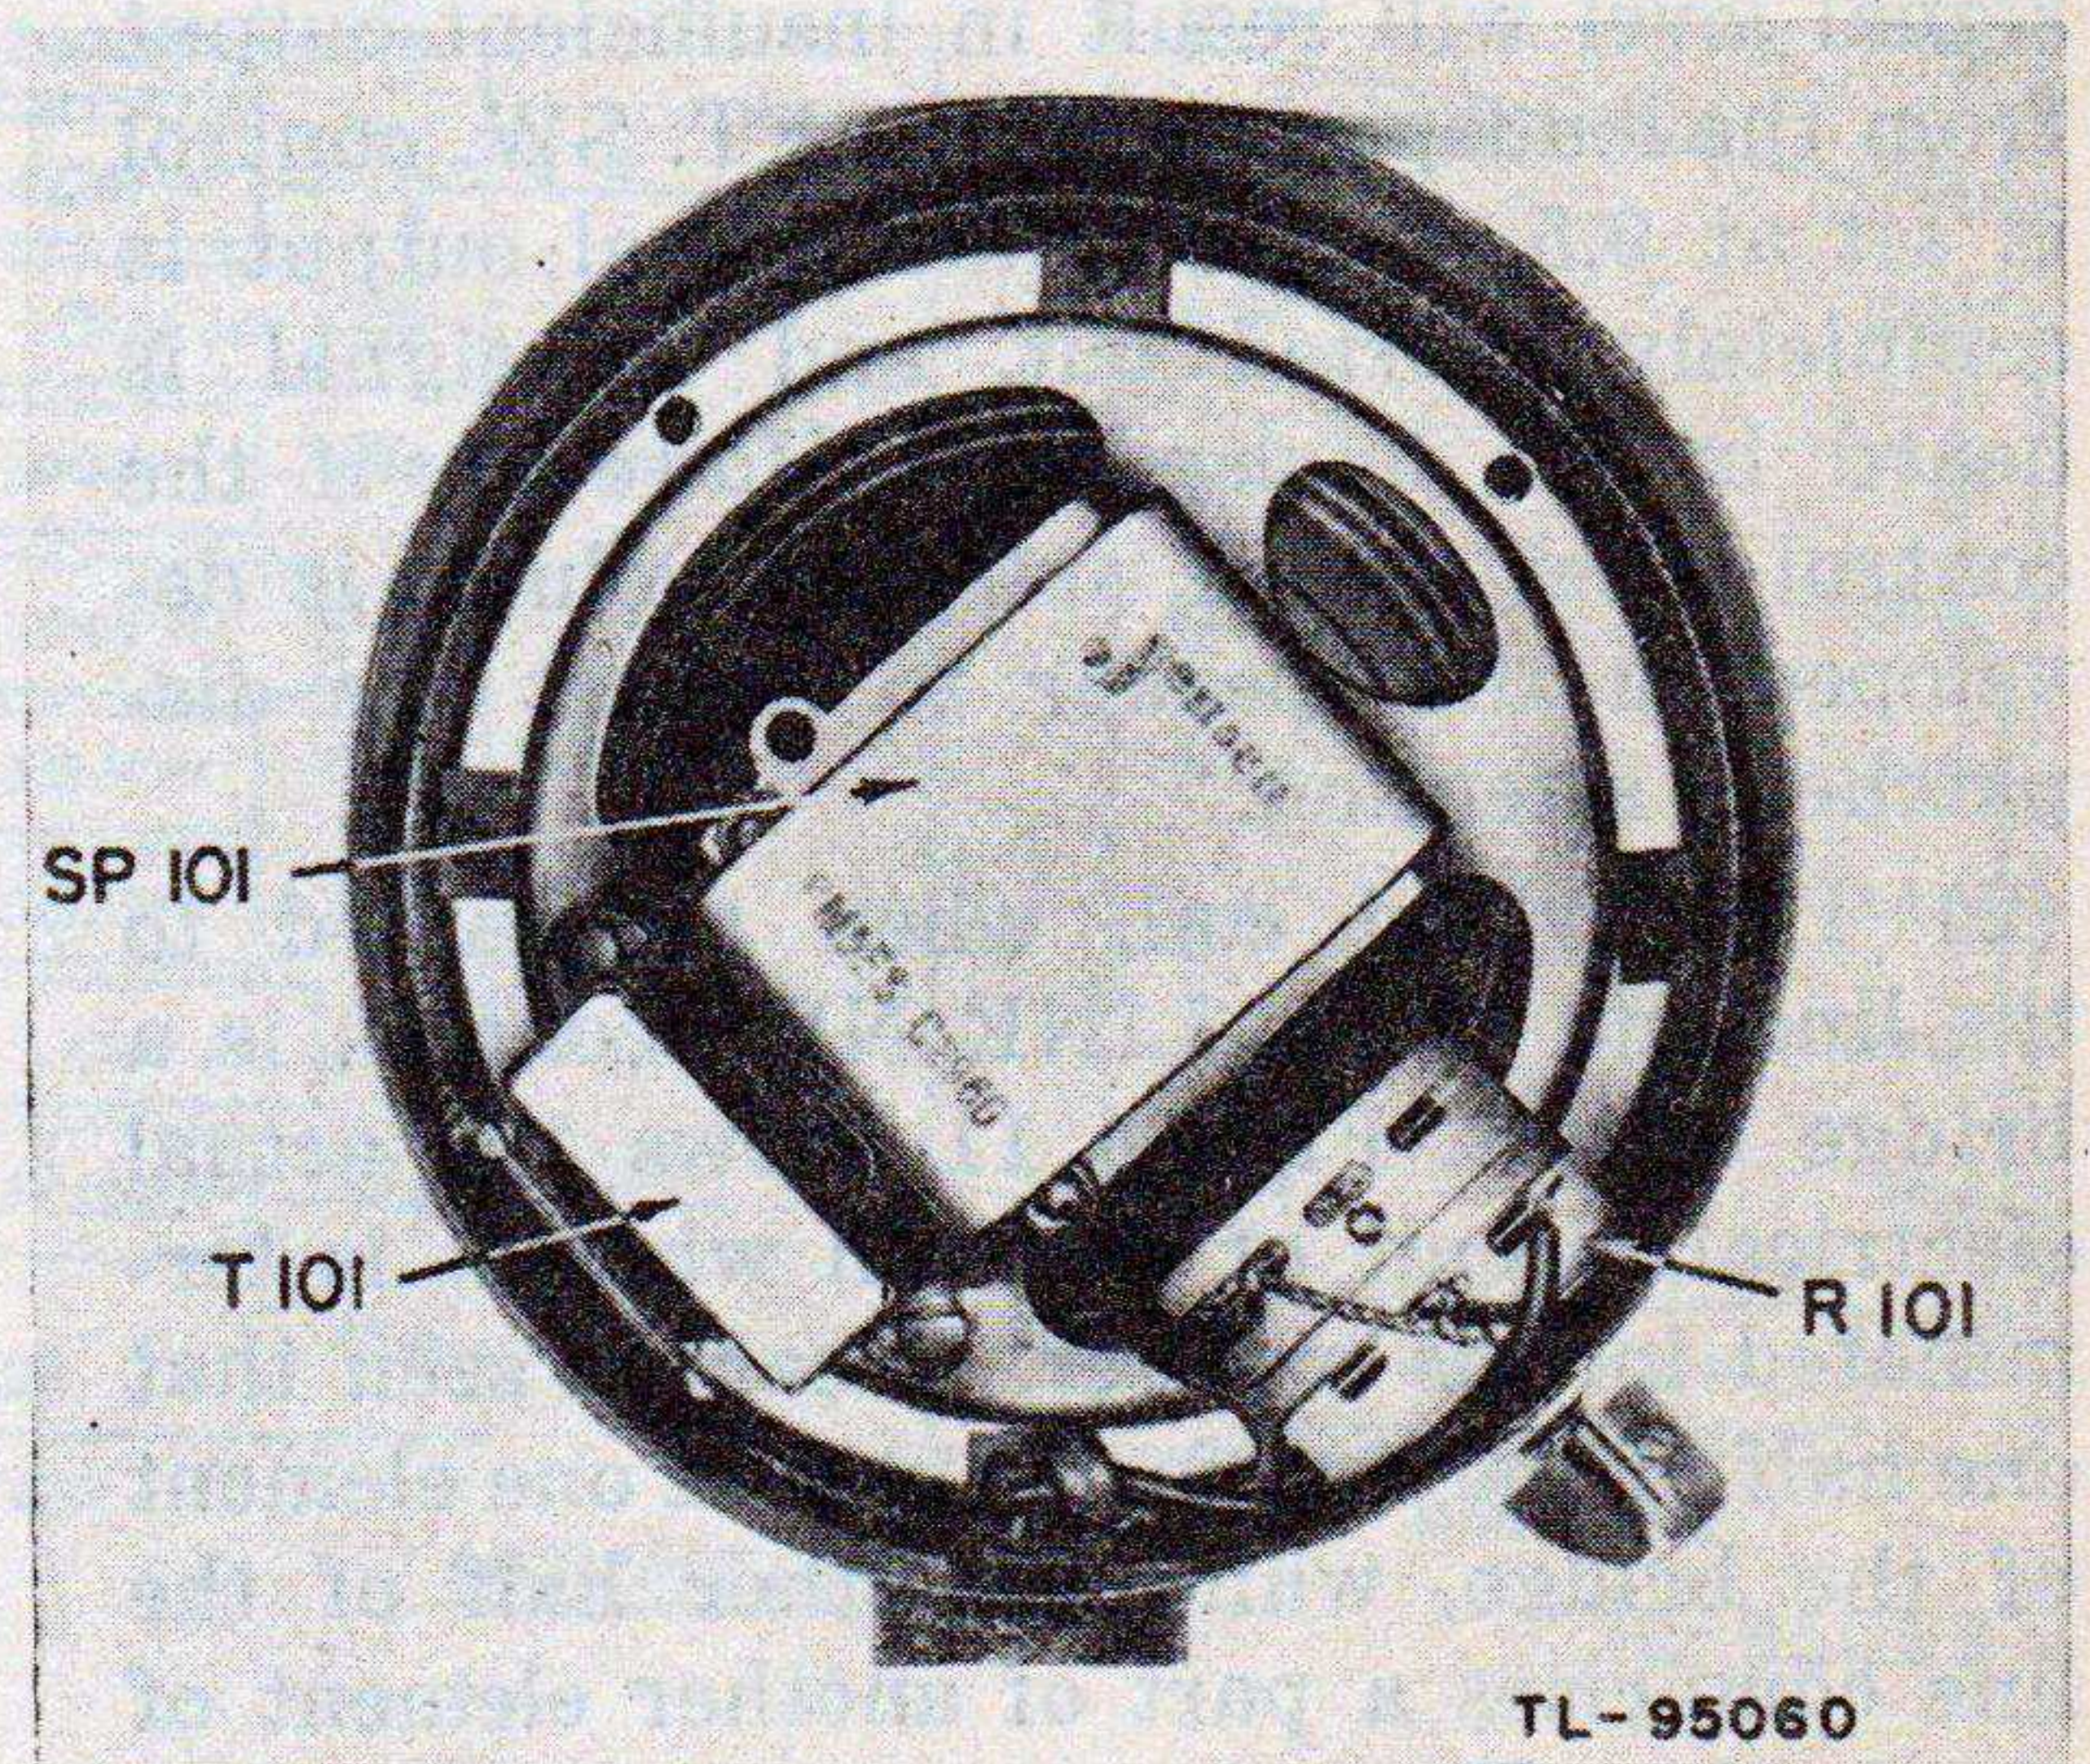

Figure 10. Loudspeaker, rear view, back cover removed.
c. Speaker Control. A control on the speaker, type 6AL, (fig. 10) controls the level of the sound when calls on the line are coming in through the amplifier. This control on the speaker should be used freely as it is the only volume control in the normal operation of the equipment.